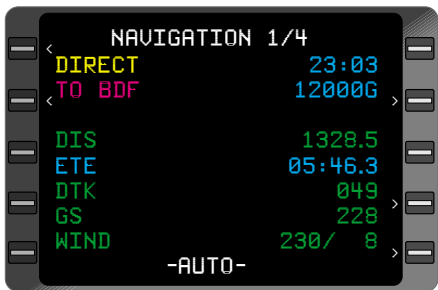

Figure 3-187
- ENTER** Key - DEPRESS to display Altitude Constraint. (Figure 3-187)